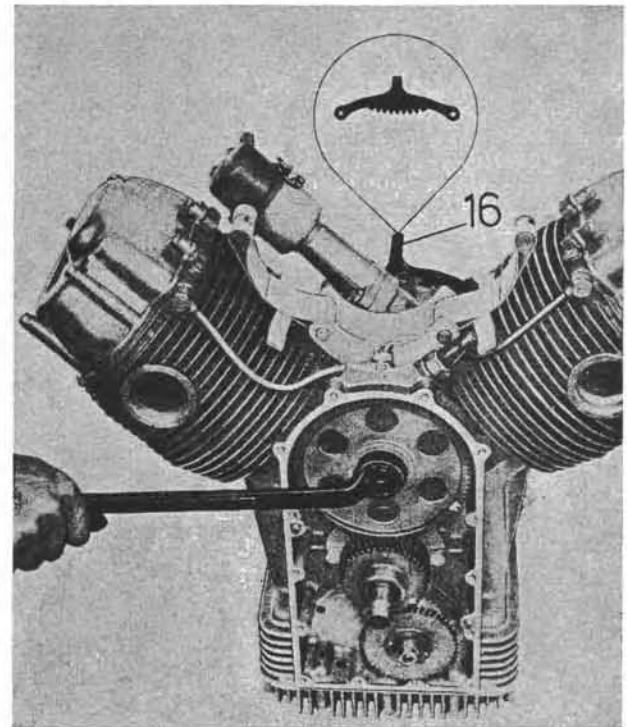

Fig. 9
- cam wheel, removing nut securing same to camshaft, by means of ring wrench and tool No. 12911801 (see 16 on Fig. 9).